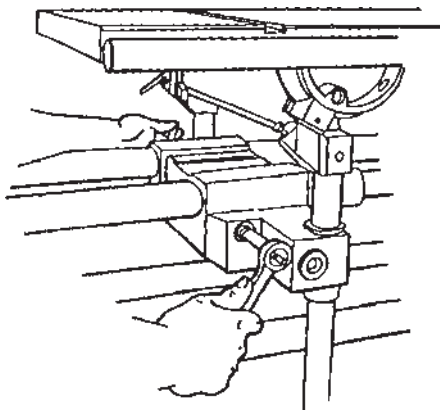

Figure B-45
3. If the carriage lock handle (187) does not lock just past the horizontal position or the carriage moves out of position, the lock needs adjusting. To adjust the lock, use a 1/2" socket with an extension and ratchet handle to tighten or loosen the nut located at the back of the carriage assembly, as shown in Figure B-45.